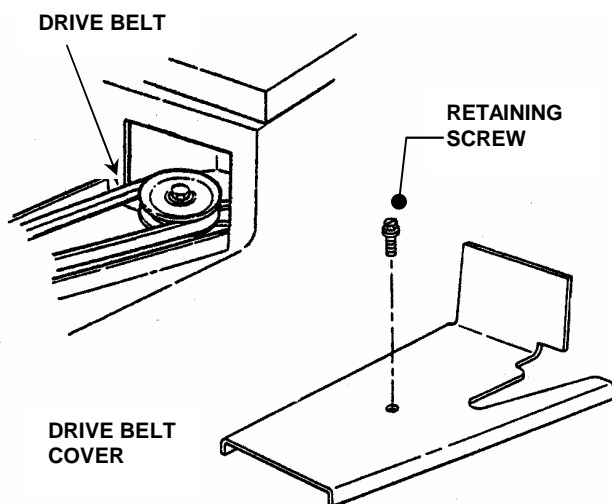

FIGURE 4.6
2. Remove the retaining screws that secure the belt cover. Remove the belt cover. See Figure 4.6.